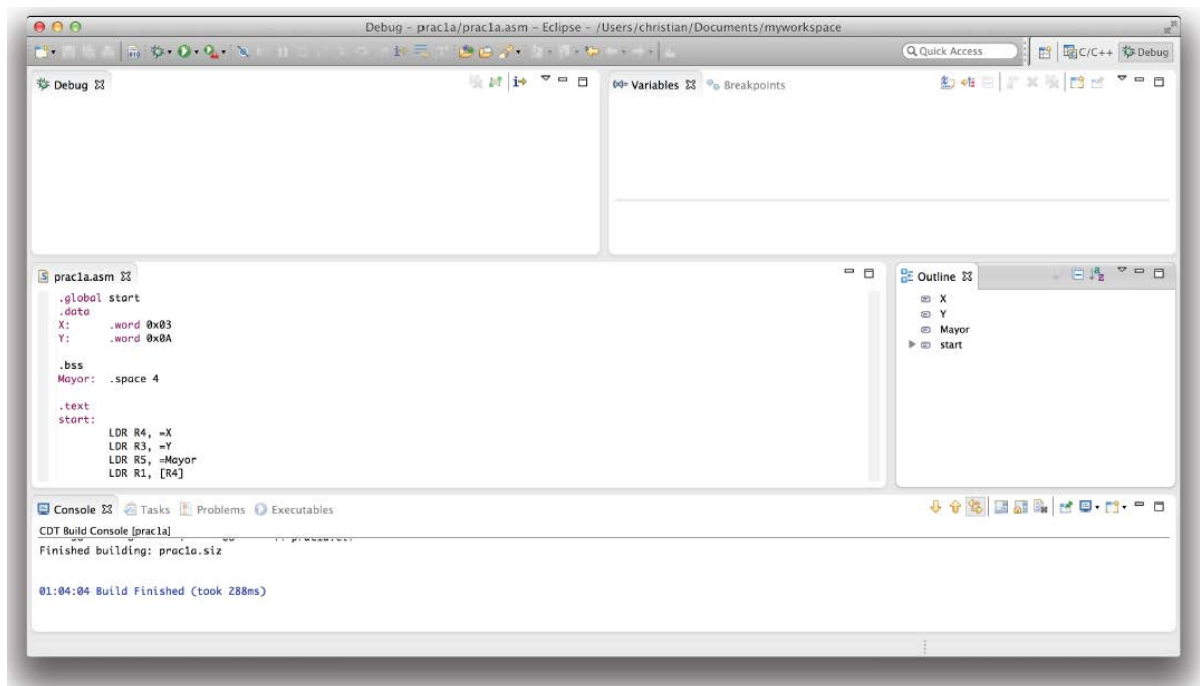

Figure 1.12 Debugging perspective
1. Open the Debug perspective. To do this, select Window→ Open Perspective→ Debug. The Eclipse window will then appear as shown in Figure 1.12. As we can see, the window is divided into several regions, each one with tabs: